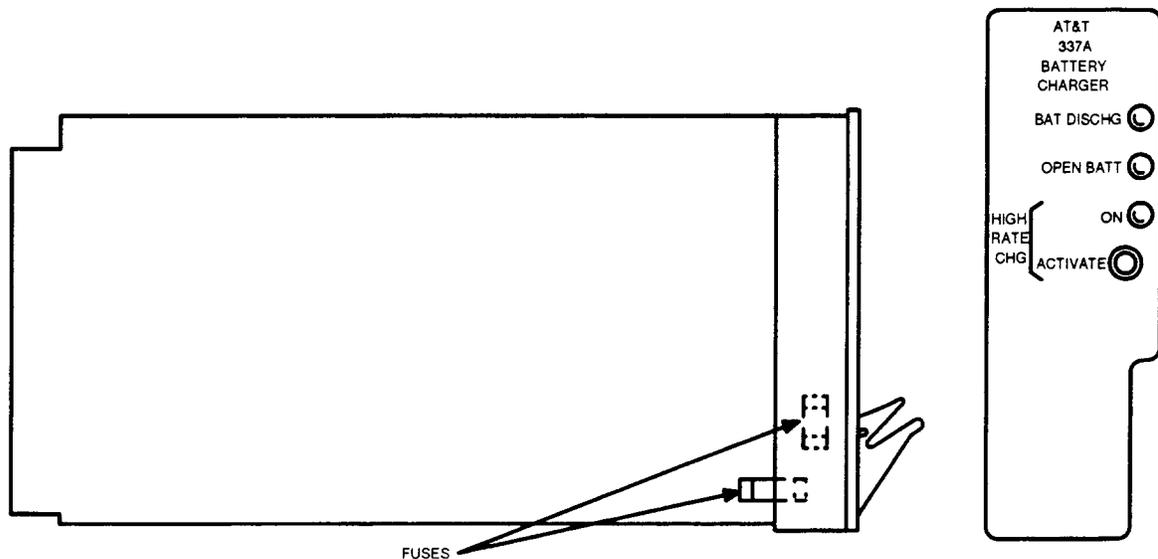

Figure 1 — Location of Fuses on 337A BATTERY CHARGER
2. Verify that fuses on **BATTERY CHARGER** are not blown (Figure 1).